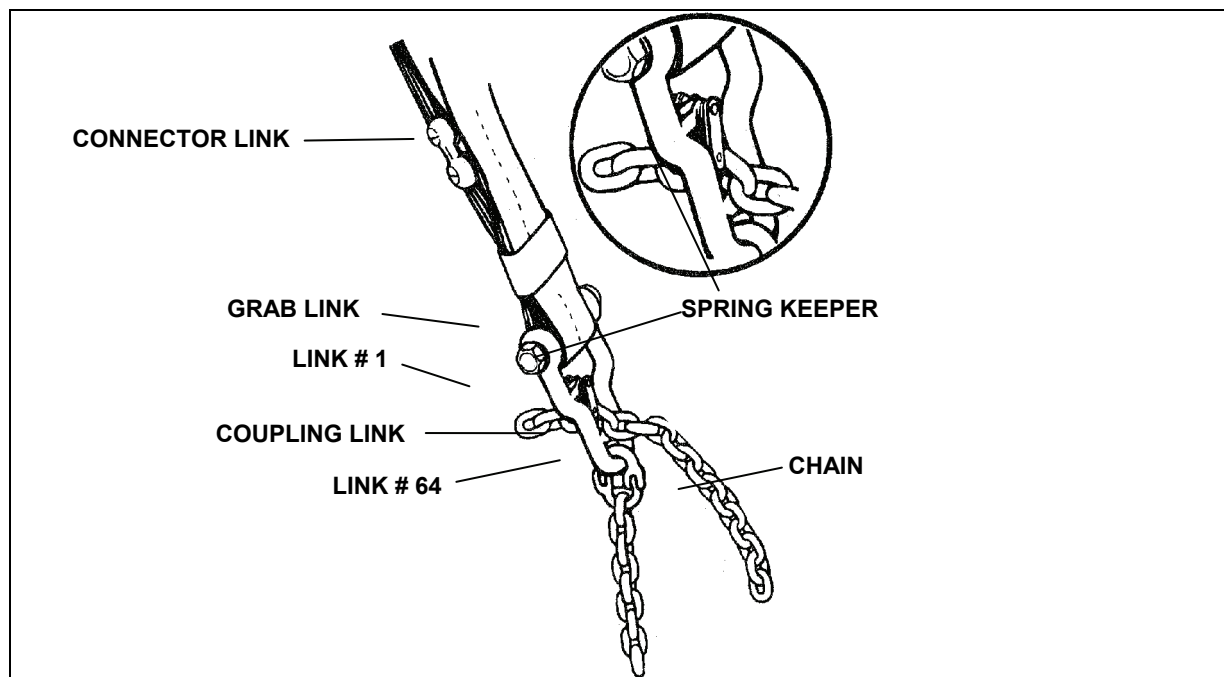

Figure 6-25. Grab Link with Spring Keeper
- Grab Link Assembly.** The next item on the sling set, the metal grab link, is attached to the lower end of the nylon web sling leg. This grab link is equipped with a spring-loaded keeper as shown in the inset of Figure 6-25. At the lower end of the grab link you will see the coupling link that is used to connect the chain leg to the grab link.